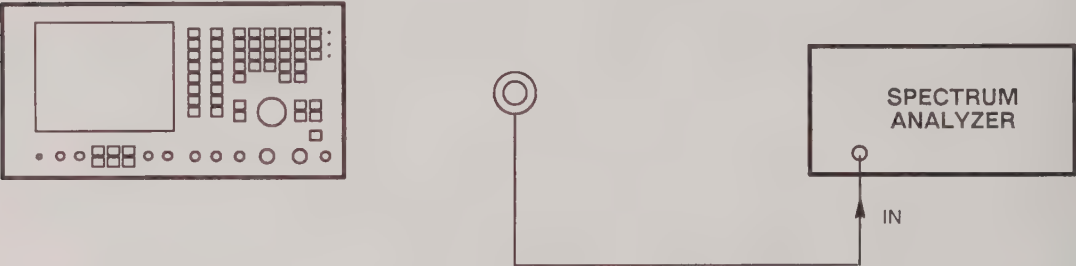

Fig. 6-26 Test equipment connections for RF generator RF leakage
- (1)
- Connect the spectrum analyzer to the loop. Connect the load to the RF IN/OUT BNC socket. See Fig. 6-26.